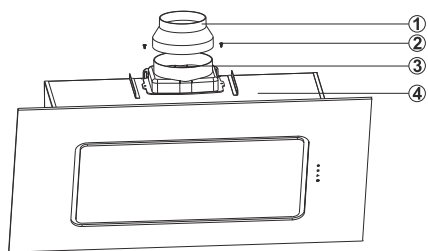

Fig. 12
Mount the plastic flue to the product body using 3.5x9.5 screws (Fig. 12).
- Connect the Ø150/120 mm plastic flue adapter to the air outlet if air discharge pipe is 120 mm (Fig. 12).